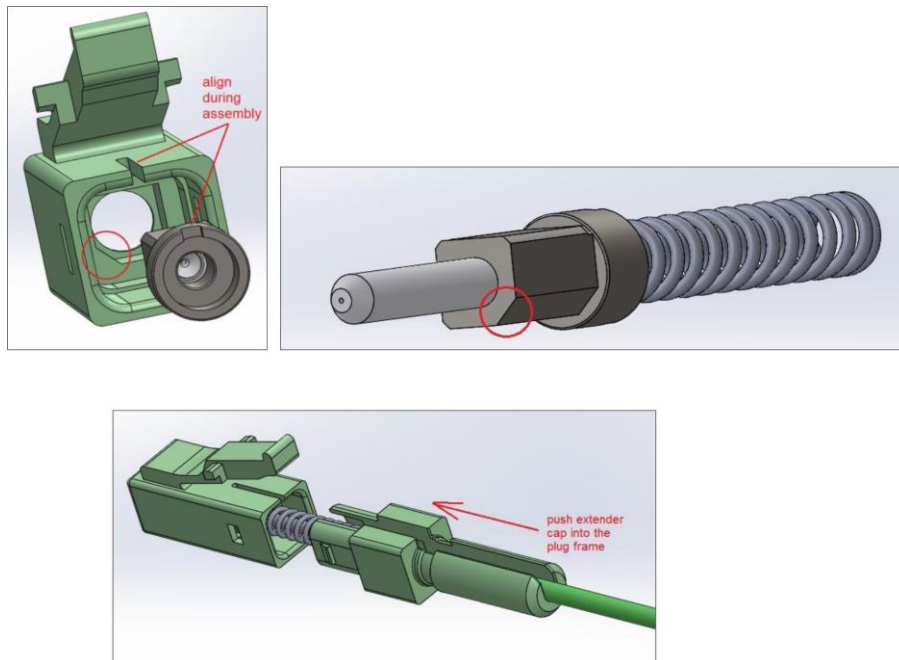

Figure 5
3. Assemble the connector as shown in Figure 5.